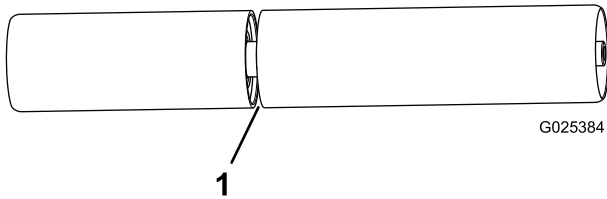

Figure 3
- Increase the gap (Figure 3) between the 2 roller tubes on each roller assembly.